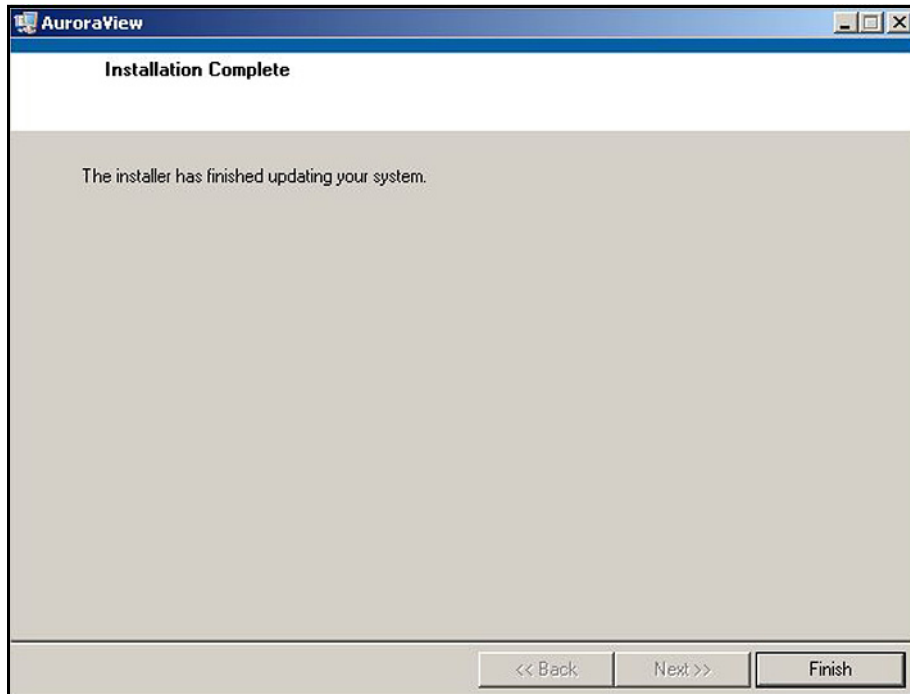

Figure 27: Installation Is Complete
9. The screen shown in *Figure 27* below appears when the installation is complete.